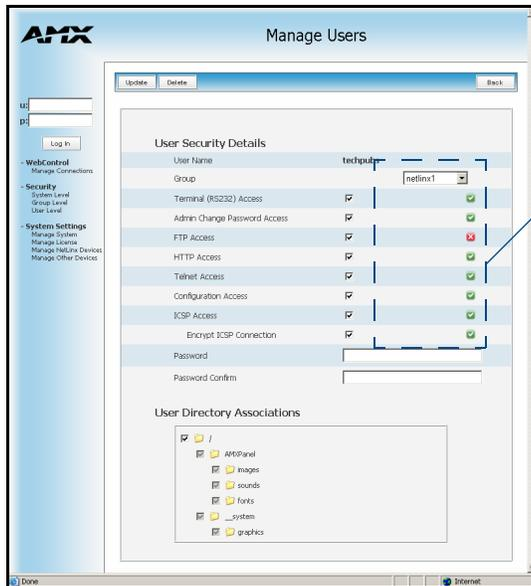

FIG. 41 User Level Security - Modifying a User’s Security rights
2. Click the **Select** button next to the selected User’s name to open the *Configure User Properties* page for the particular user (FIG. 41).
3. From within the User Security Details section, modify any previously configured access rights by either placing or removing a checkmark from within any of the available checkboxes (FIG. 41).